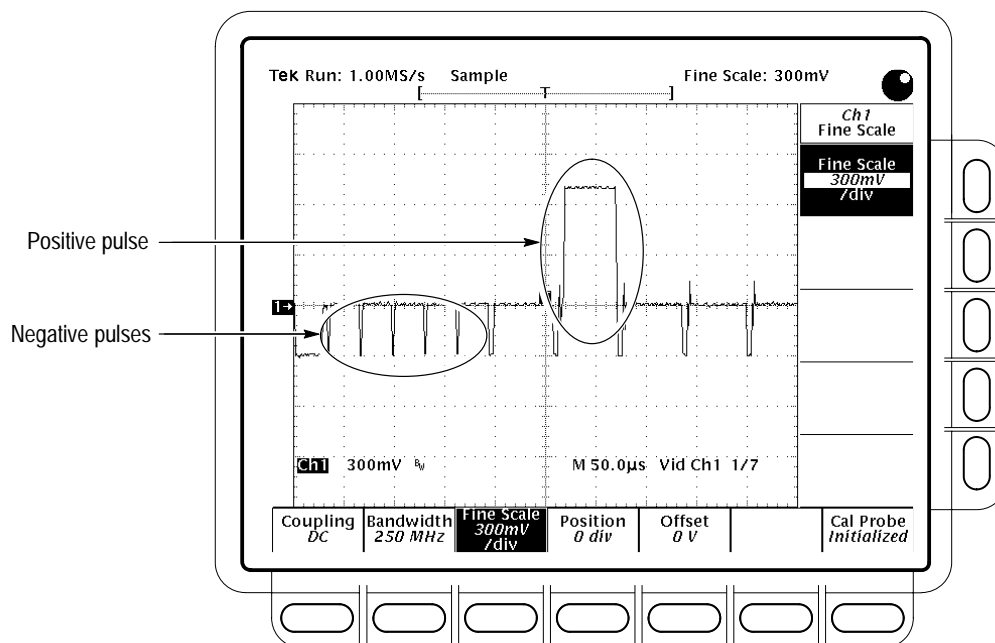

Figure 1–29: Triggered signal range test – 300 mV
- m. CONFIRM that the **TRIG'D** LED stays lighted and that the waveform on screen is stable. Also, CONFIRM that the waveform on the screen has one positive pulse and a number of negative pulses. See Figure 1–29.